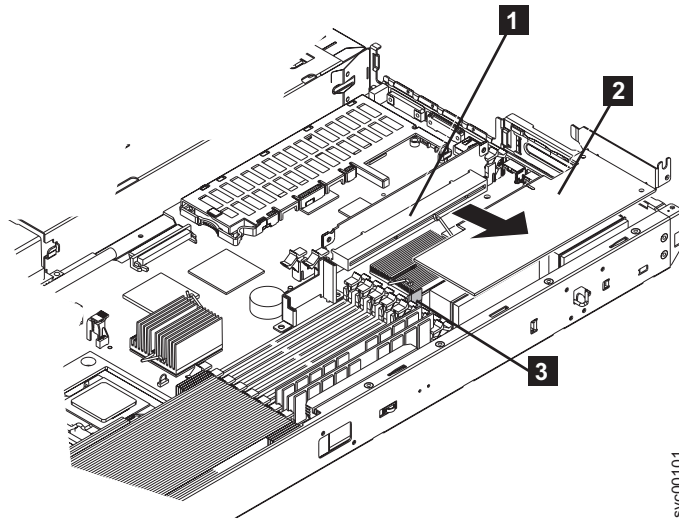

Figure 143. SAN Volume Controller 2145-8F2 riser card and low profile adapter
- b. Hold the blue adapter support away from the card and pull it away from the edge connector on the riser card assembly, as shown in Figure 143.